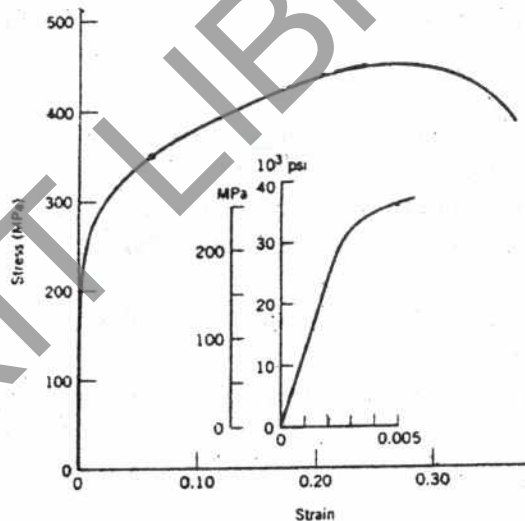

Fig. Q2(a)
- a. From the **tensile** stress-strain behaviour for the brass specimen shown in Fig. Q2(a), determine the following :